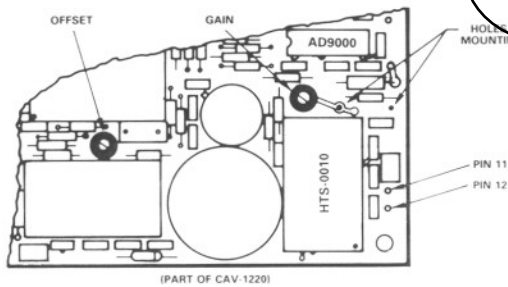

Figure 2. CAV-1220 Adjustment Controls
- Standard bipolar input is adjustable $\pm 5\%$ with on-card potentiometer (see text and Figure 2). Unipolar 0 to +2V input range is available on special order; consult factory for details.
- Adjustable ± 15 mV without performance degradation (see text and Figure 2).
The physical location of R_{IN} is shown in Figure 2.
Refer to Figure 2, the CAV-1220 Adjustment Controls.